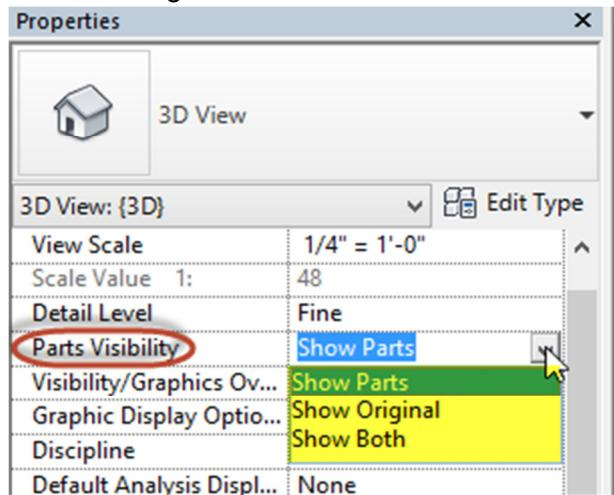

fig. 11
- 2) With nothing selected, look for "Parts Visibility" in the Properties window and in the pull down you'll see three options – Show Parts, Show Original and Show Both. See fig. 11. As you cycle through them, observe the left, parted wall to see how the visibility states change. For this exercise we'll leave it set on Show Parts so we can see the components.